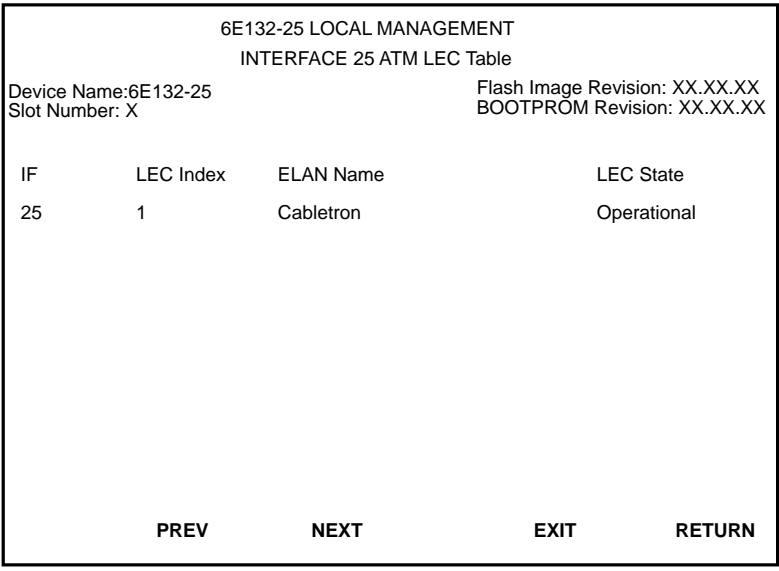

Figure 3-8 The ATM LEC Table Screen
2. Press ENTER. The ATM LEC Table screen, **Figure 3-8**, displays.